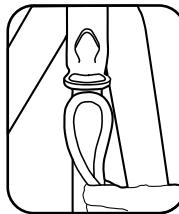

Fig. 1
1. Create a loop in the power cord and push it through the slot and over the hook of the cord retainer (Fig. 1).